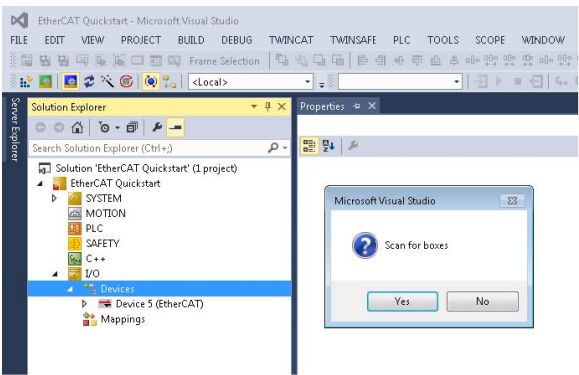

Figure 16. Scan for Boxes Dialog Box
1. Click **OK** to add an EtherCAT device to the **Devices** node with the EtherCAT icon, which is the red icon next to **Device 5 (EtherCAT)** within the **Solution Explorer** pane (see Figure 16). The message in Figure 16 then appears asking the user to **Scan for boxes**.